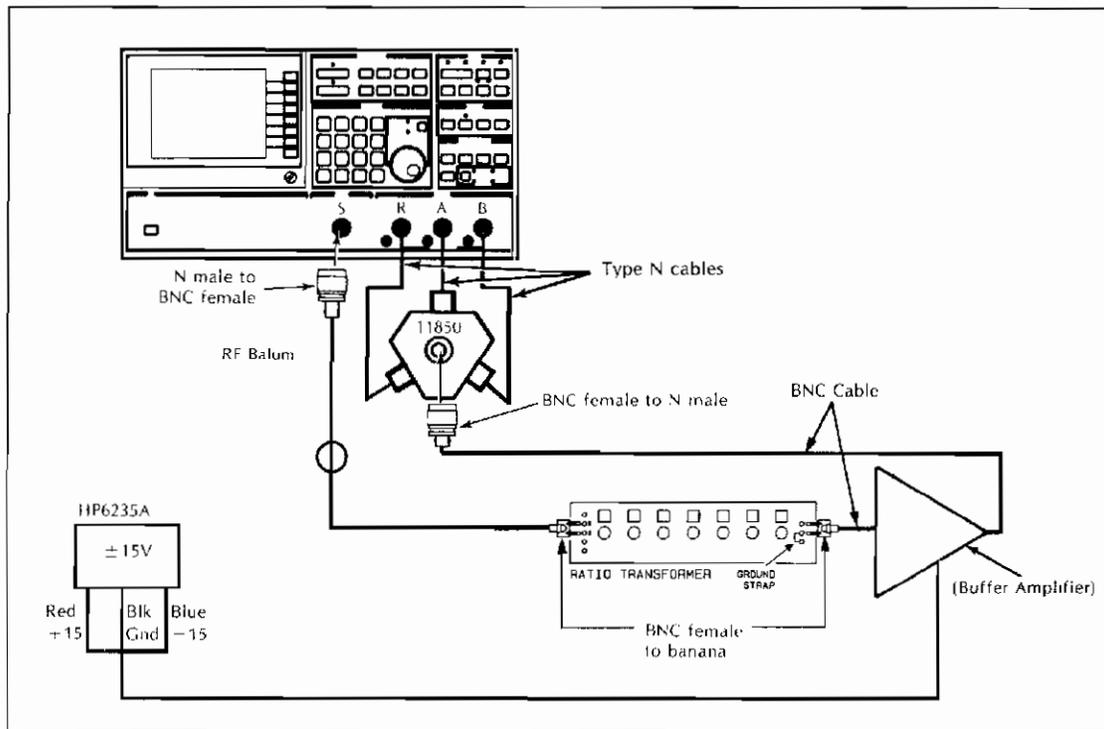

Figure 3-4 Dynamic Linearity Test Set-Up
- b. Connect test equipment as shown in Figure 3-4.